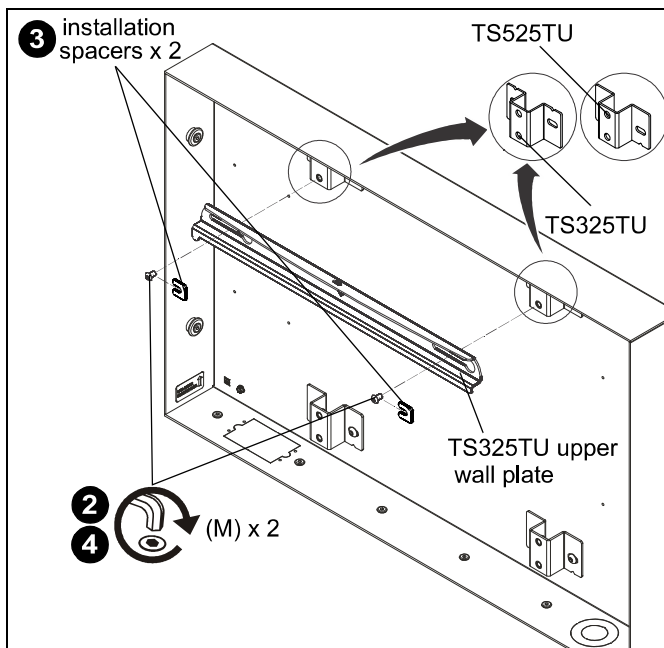

Figure 9
- Use two 5/16-18 x 1/2" button head cap screws (M) to loosely attach upper wall plate of TS325TU/TS525TU to upper attachment brackets (N). (See Figure 9)
**IMPORTANT !** : Install to upper bracket holes for TS525TU and lower bracket holes for TS325TU. See Insets on Figure 9.
- Place two installation spacers (included with TS325TU/TS525TU) over two 5/16-18 x 1/2" button head cap screws (M). (See Figure 9)
- Tighten two screws (M) to secure upper wall plate to upper attachment brackets.